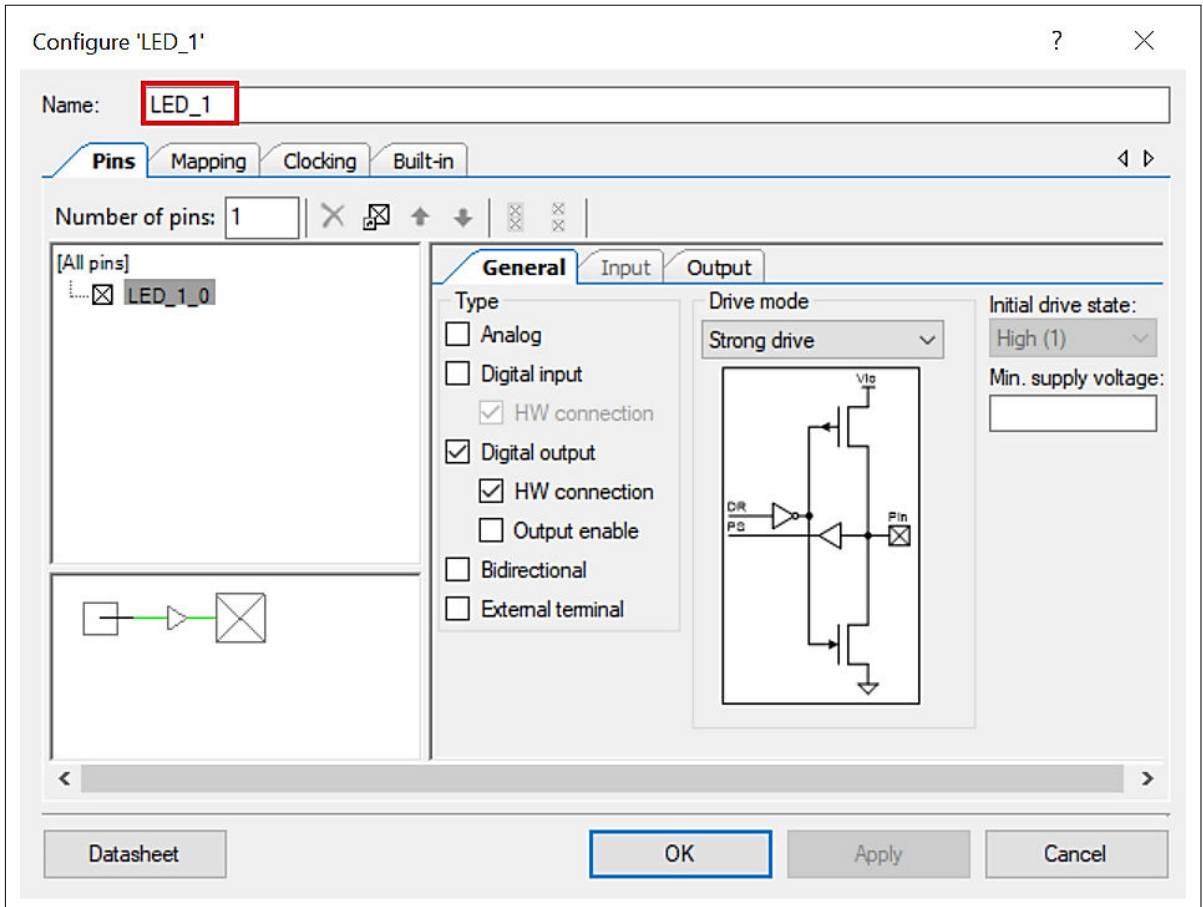

Figure 43 Renaming a pin Component
9. Drag and drop a **Digital Output Pin** Component. Change the name to LED\_1 as shown in Figure 42 and Figure 43. Add another Digital Output Pin Component and change its name to LED\_2.